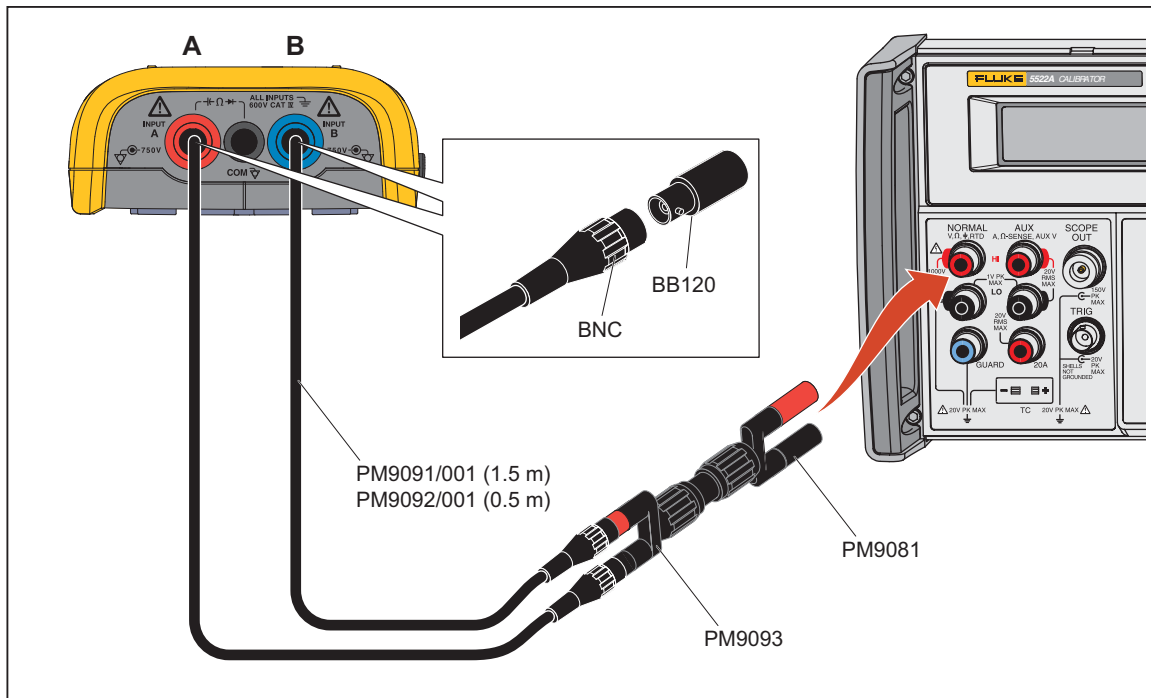

Figure 11. Volt Gain Calibration Input Connections <300 V
2. Connect the Test Tool to the Calibrator as shown in Figure 11.